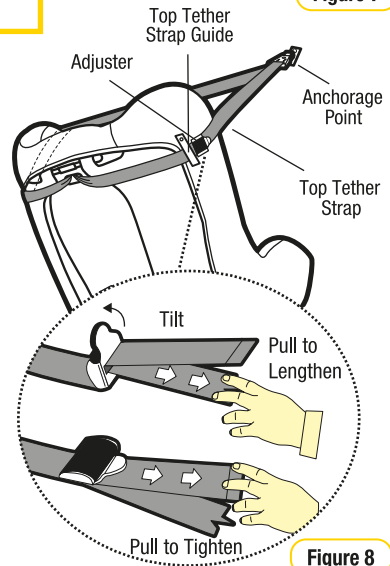

Figure 8
Step 7: Pull to tighten to remove all the slack, from the upper anchorage strap. Do not overtighten as this could cause the restraint to lift off the vehicle seat (refer to Figure 8).